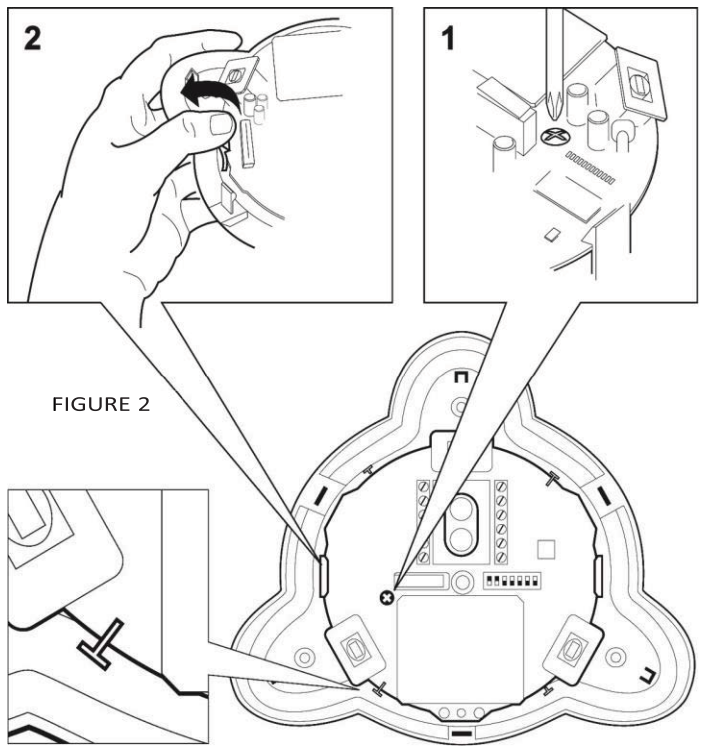

FIGURE 2
Release the PCB holding screw (Figure 2) located on the right hand side of the PCB (1), pull gently the two release clips (2) outward and remove the PCB.